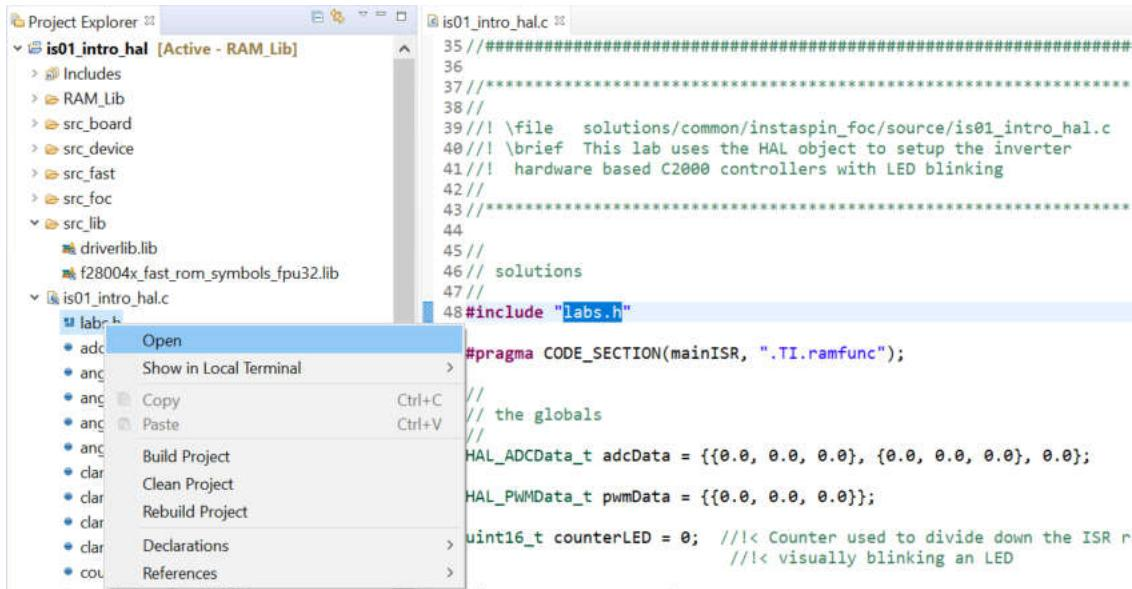

Figure 7: Opening a header file declaration from the Project Explorer tab
2. Right-mouse clicks on "labs.h;" selecting "Open" shows "is01_intro_hal.c" with the reference to "labs.h" highlighted, as shown in **Figure 7**.